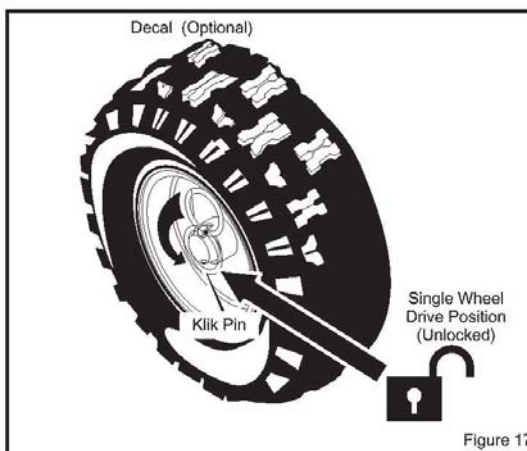

Figure 17
2. For ease of maneuverability when lighter conditions prevail, remove klik pin from wheel locked position and insert into single wheel drive (unlocked) position (Figure 17). Make sure that the klik pin is in the single wheel drive position of the axle only and not through the locked position.